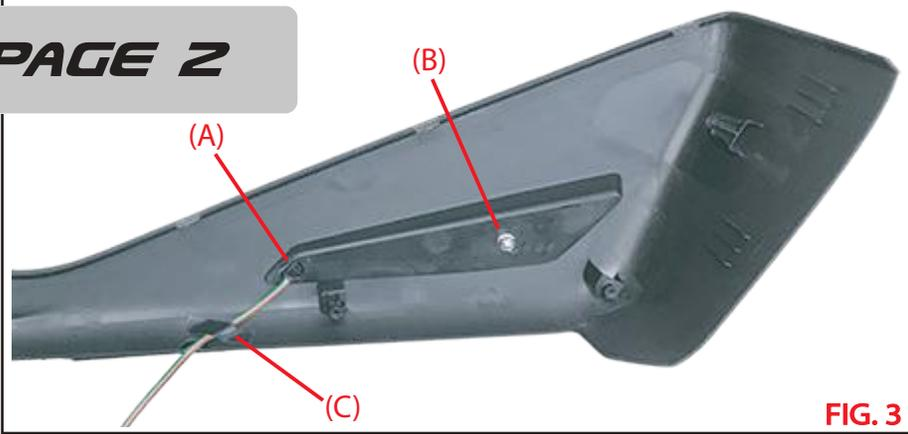

FIG. 3
10. Use a "step drill" to create a 5/8" - 16mm hole through the panel. Use the reflector alignment pin hole as a guide. FIG.3 (A) FIG.4
11. Install the Goldstrike Saddlebag Side Light onto the black panel. Use the nut from Step 9. FIG.3 (B)
12. Route the wire through the half circle notch in the bottom of the panel and secure the wire to the inside of the panel with a small piece of tape. FIG.3 (C)